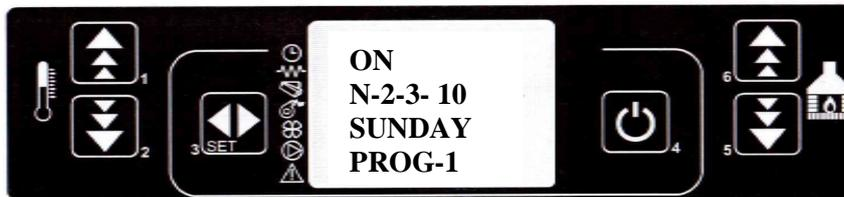

Figure 52
By pressing the button SET and the button 1 we activate (ON) or deactivate (OFF) the program 1 for the corresponding day in the week starting from Monday, up to Sunday as shown in figures 52 and 53. The transition from day to day is performed by pressing the button SET.